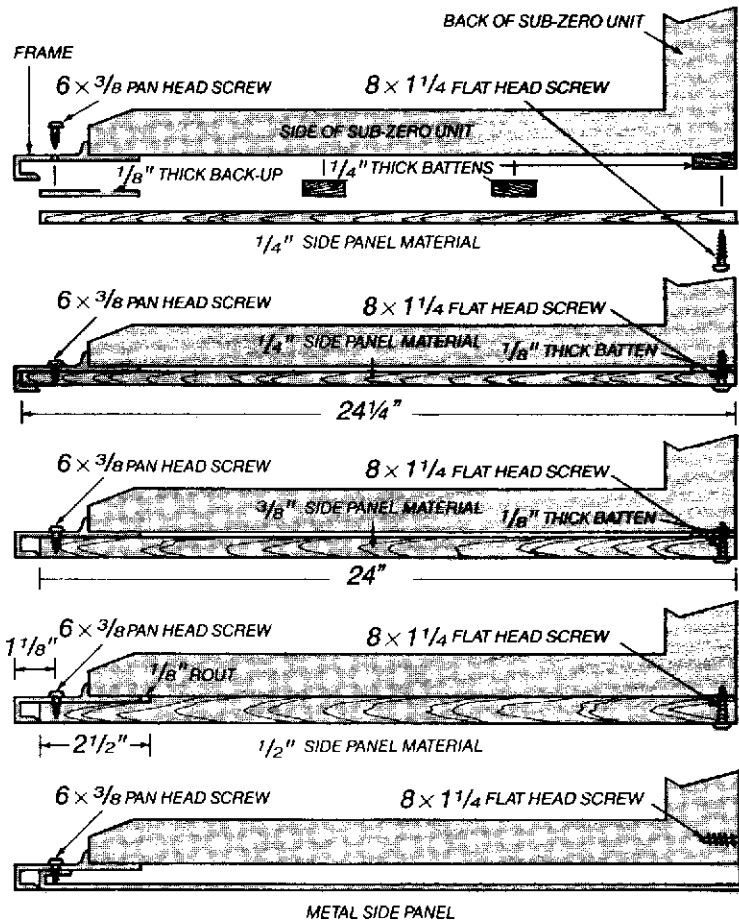

Figure 23
If side panels are being utilized, please check with your installer for installation methods or you may use one of the side panel installation methods shown in Figure 23.
**NOTE:** Figure 23 is viewed from top edge of panel.